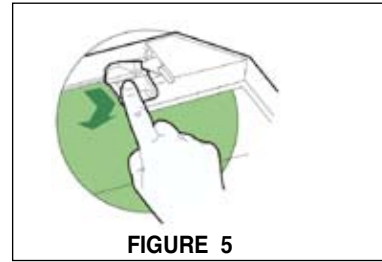

FIGURE 5
5. Install the charcoal filters (**sold separately**) above the perimetric comfort panel and the grease filter, see (**FIGURE 5**) for installation. Pull down the comfort panel, remove the grease filter and position the charcoal filter with the pull tabs facing out and forward, then snap into place. Place the grease filter back into place and close the comfort panel.
The charcoal filters should be replaced (as indicated in FIGURE 5 on page 6) when the "EF" message appears on the LED screen or at least every 4 - 6 months depending on heavy usage. The alarm only comes on when the motor is turned on.